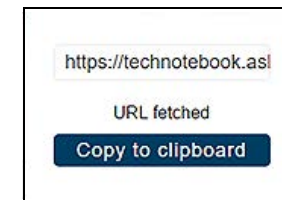

Figure 12-13
1. Select the **Menu** icon (Figure 12-13) from the upper toolbar.
3. Select **Copy to Clipboard** (Figure 12-13) from the pop-up window.
The Favorites screen displays all the reports selected as favorites (Figure 12-13).